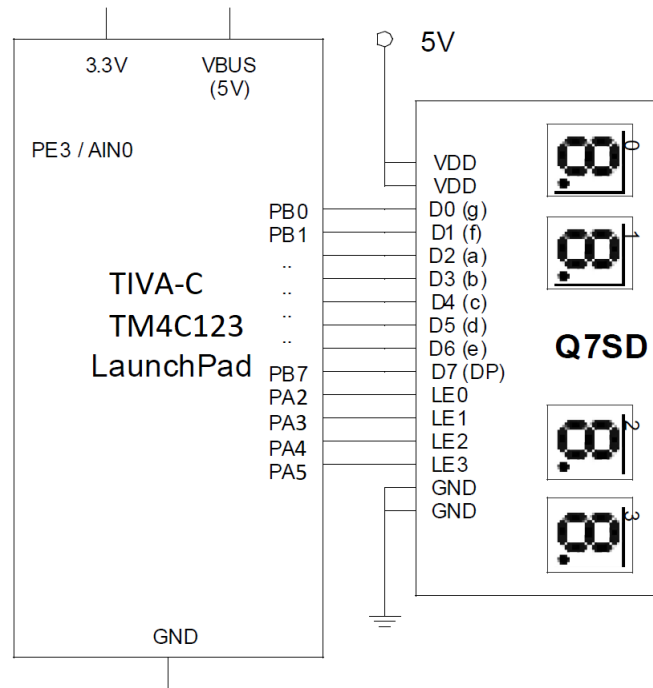

Figure 6.5: Connection to Seven Segment Display
Note carefully the diagram of the display module. Connect the circuit as shown in Figure 6.5. The LaunchPad board is sufficient to supply +5V to Vdd of the 7-segment display module - connect the display power pins directly to VBUS and GND of J3. The experiment uses C language to program the MCU. Write a program to accomplish the task. You will need to open a new project on Keil  $\mu$ Vision. Note that display latches are connected to PA2-PA5 and the data pins are connected to PB0-PB7. Using the Latch Enable (LE) pin, your program can update the display digits one at a time.